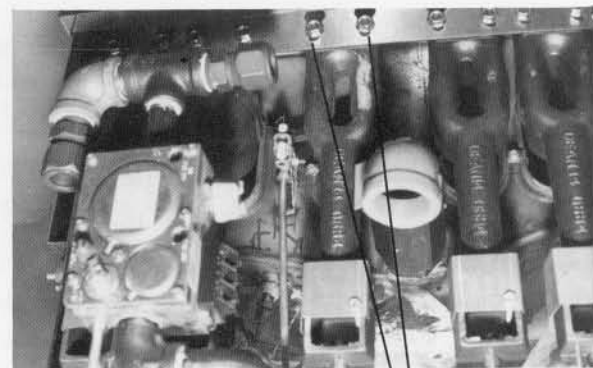

Figure 17
3. Loosen two screws at upper part of burner (Fig. 17).